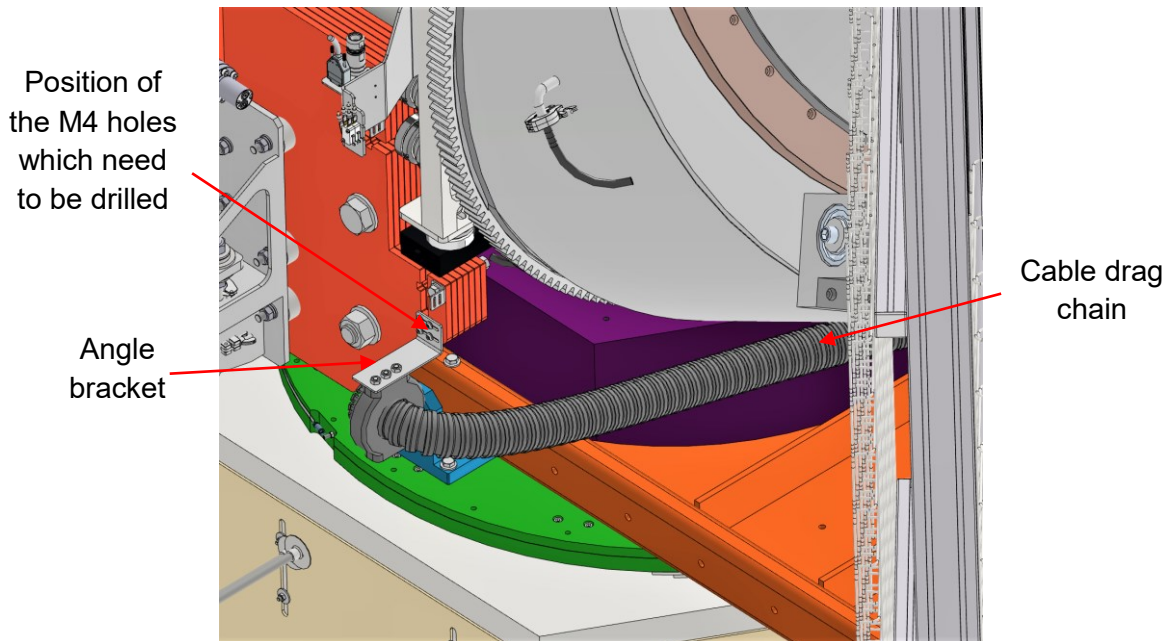

Figure 32: Angle bracket holding cable drag chain
17. In order to fix the angle bracket shown in Figure 32 for the cable drag chain, four tapped holes M4 x 8 must be drilled into the orange support frame.